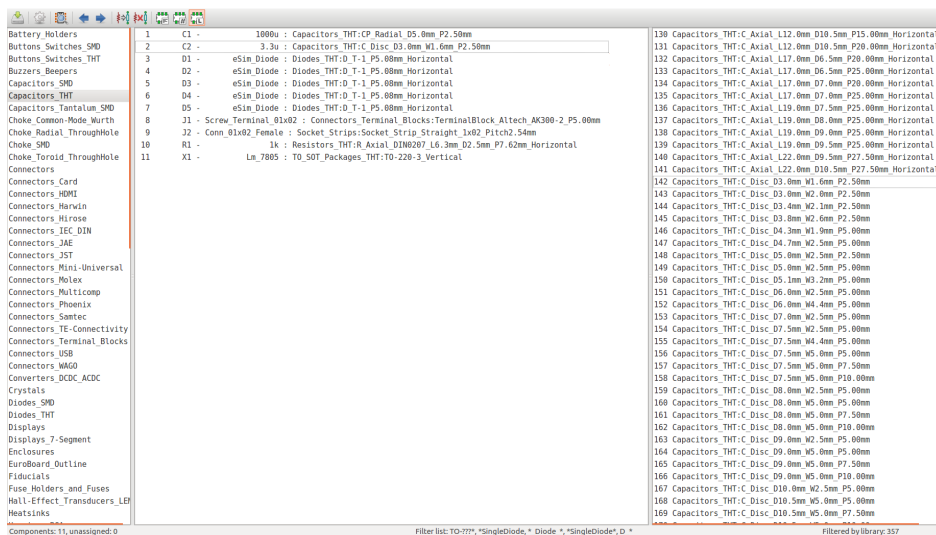

Figure 13.8: Footprint mapping completed for the circuit
2. Similarly choose the footprints per Fig. 13.8 where the footprint association for all the footprints is shown in Fig. 13.8. Save the footprint association by clicking on the Save footprint association in schematic component footprint fields tool from the CvPcb toolbar.